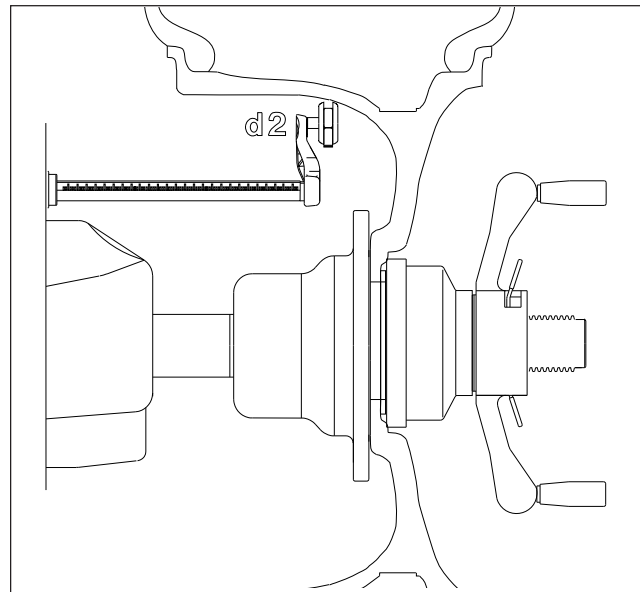

Figure 32
3. Move the parameter arm to the right weight position, the machine displays "d - 2" as the arm is moved. See Figure 32. The high tone will sound when dimensions are entered. Return the gauge arm to the rest position, a low pitch tone will indicate when it is OK to proceed.